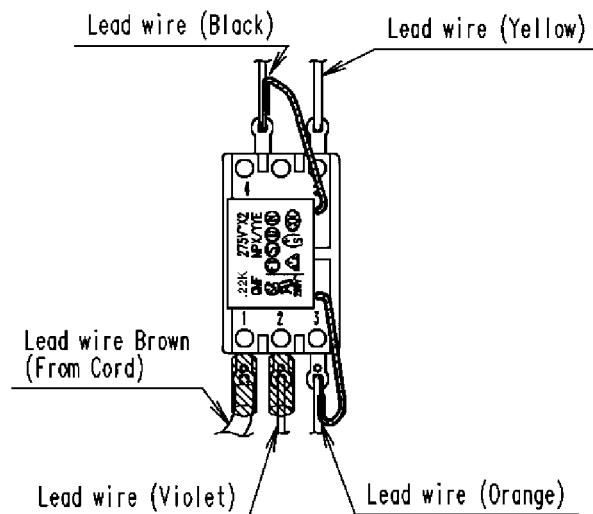

Figure 10
1. Install leadwire Black, Yellow, Violet, Orange and lead wire brown (from power cord) with a main switch and a capacitor as figure 10.